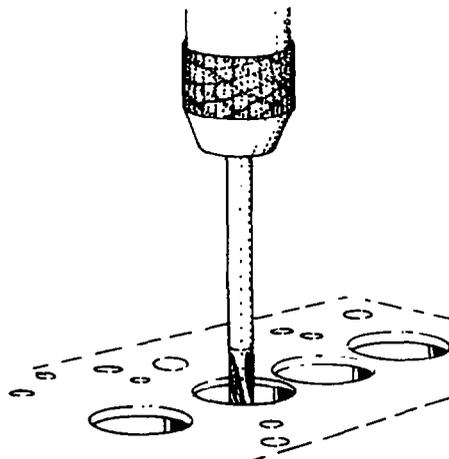

Fig. 21 — Reaming Valve Guides
- c. Ream the new valve guide after installation with tool J-24589, or equivalent (see fig. 21).